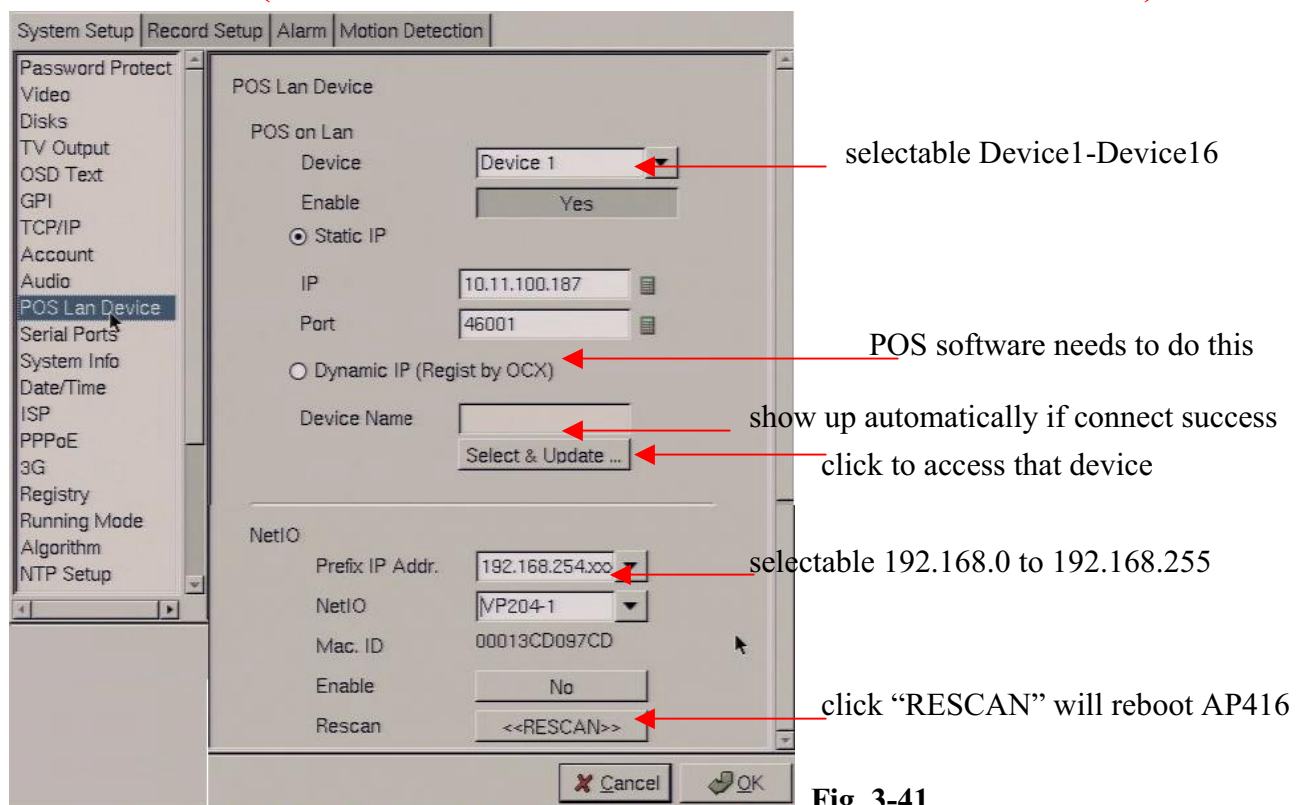

Fig. 3-41
3.6.10.2 Using AP-204 – AP204 is a RS232 to LAN converter. You can connect its RS232 to POS machine and its LAN port to the hub or switch that connects AP416. The AP-204 units that connect to the same AP416 DVR, should have same IP segment. First, select its IP prefix under “NetIO” section of **Fig. 3-41**. Then, enable and click “Rescan”, AP416 DVR will reboot scan the network to see if there are AP-204 units inside its LAN segment and bring up the MAC ID. Only after this process, you can select the “AP204-X” at “NETIO” field. The IP prefix selected, must NOT be occupied by other AP-204 units group.